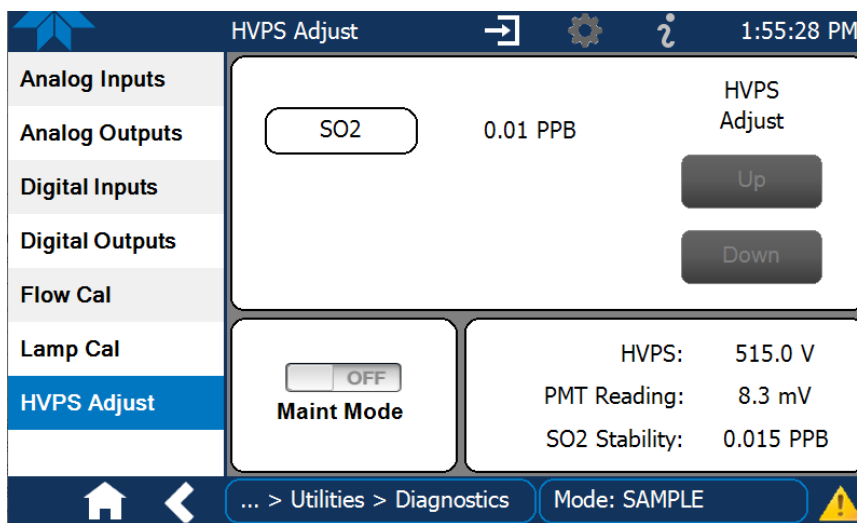

Figure 5-34. HVPS Adjust Menu
3. Return to Homescreen and navigate to Utilities>Diagnostics>HVPS Adjust (Figure 5-34).